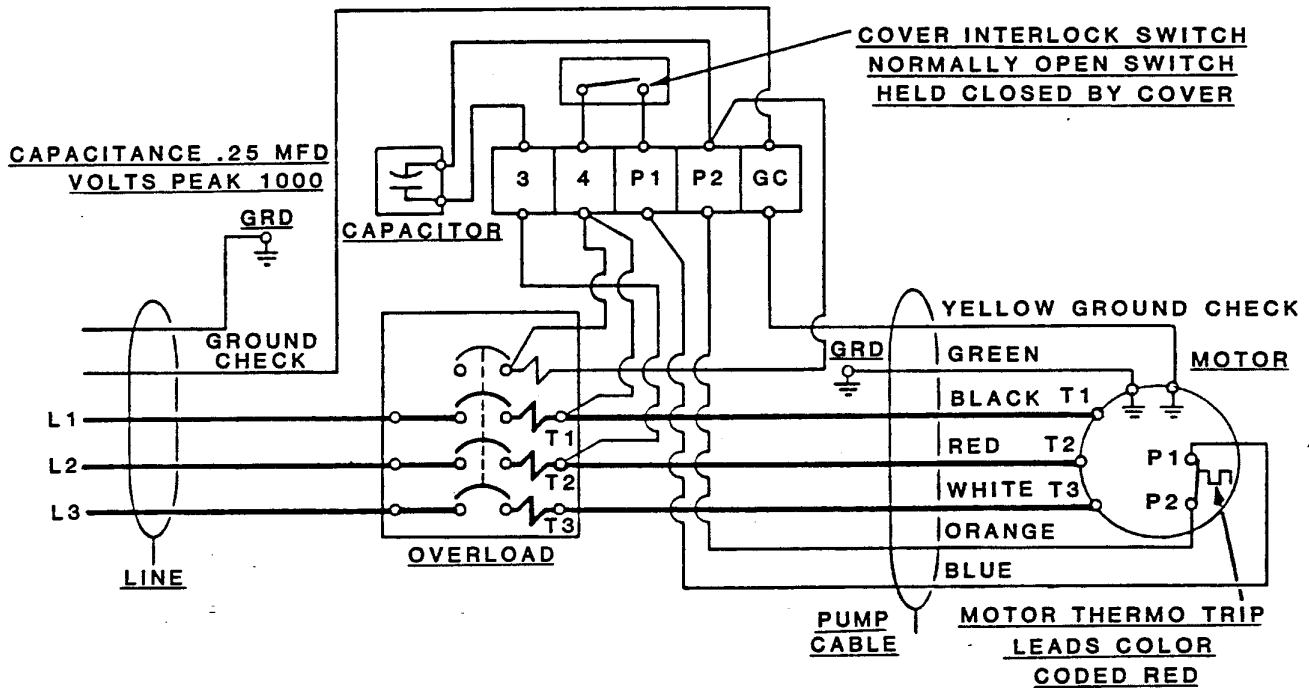

Figure 6. Connection Diagram For 47631-003
- a. Measure the incoming voltage across lines (1 & 2, 2 & 3, and 1 & 3) while the pump is **operating at full capacity**. See Figure 6 on page B-15..
Connect the pump power cable to the control box as shown in Figure 6 on page B-15.. Use the packing gland nuts to secure and seal the power and accessory cables to the control box. Make certain that all connections are tight and that cable entry points are rainproof.